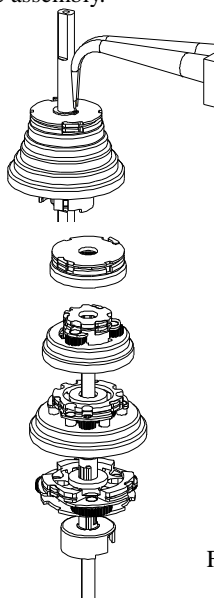

Fig 9
3. Insert the gear assembly units onto the axle assembly in order and fit a new C-clip. (Fig.9)